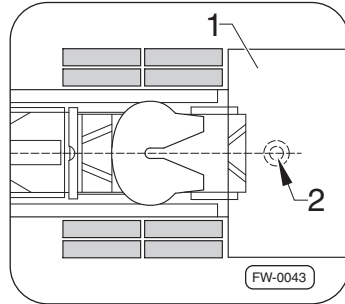

Fig. 10 · Aligning the tractor and semi-trailer
4. Position the tractor in front of the semi-trailer Fig. 10, -pos. 1-.